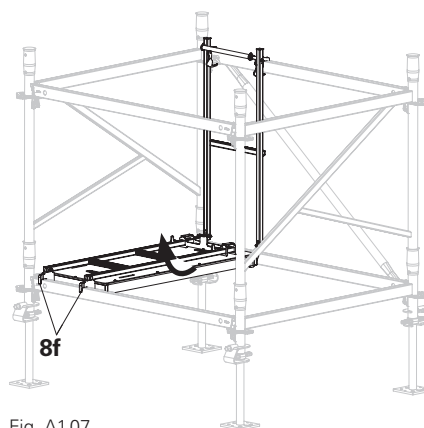

Fig. A1.07
→ Both claws (8f) of the deck are resting on the horizontal ledger. (Fig. A1.07)
4. Pull yellow bar (8d) upwards and suspend yellow lug (8e) above the top horizontal ledger. (Fig. A1.07 + A1.08)